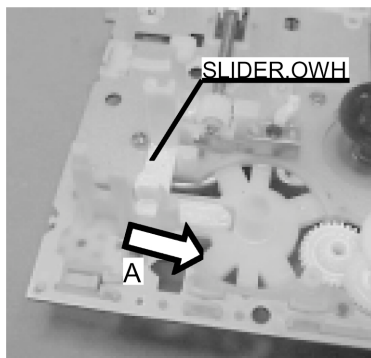

Fig.8-7
- 1) Install the SLIDER, OWH and slide it in the direction of the arrow A until it stops. (Fig. 8-7)